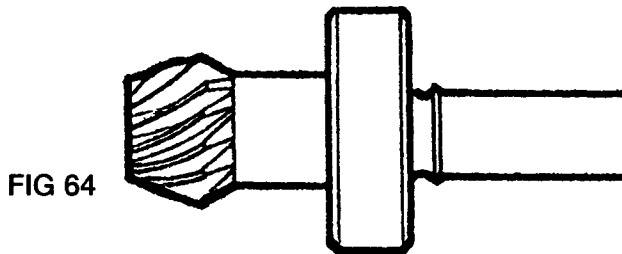

FIG 64
3. Fit new pinion making sure it is tight up to bearing #43229, (Fig. 64).
1. Clean and dry bearing. Place oil resistant gasket sealant (e.g. Fullerprene 303) around bearing as in Fig. 64.